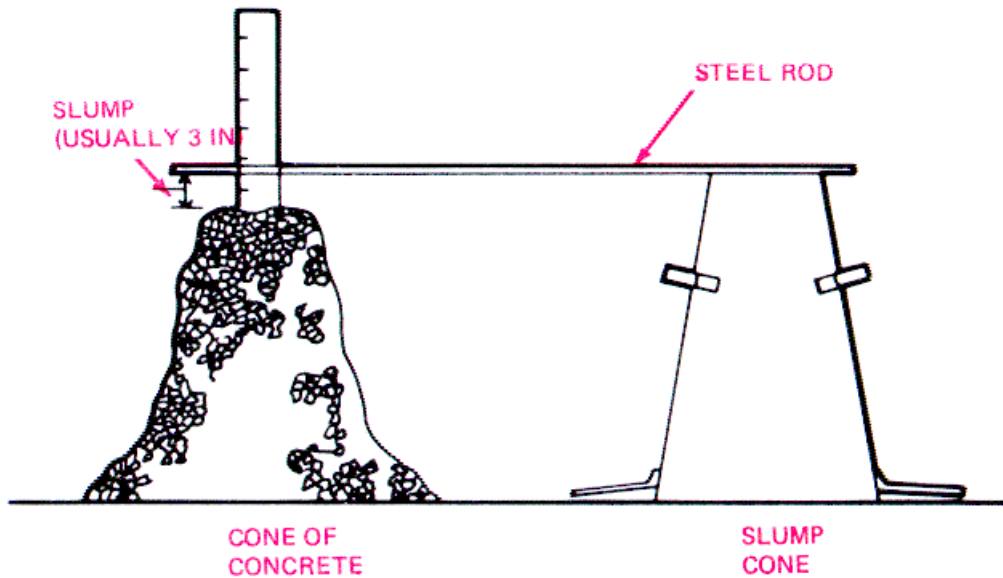

Figure 2-42. Slump Measurement.
- (2) Preparation.
- (a) Place slump cone (fig. 2-42) on a flat level surface and moisten the cone.
- (3) Conduct Test.
- (j) Place the one end of the steel rod on top of slump cone with the other end over the cone of concrete (fig. 2-42).